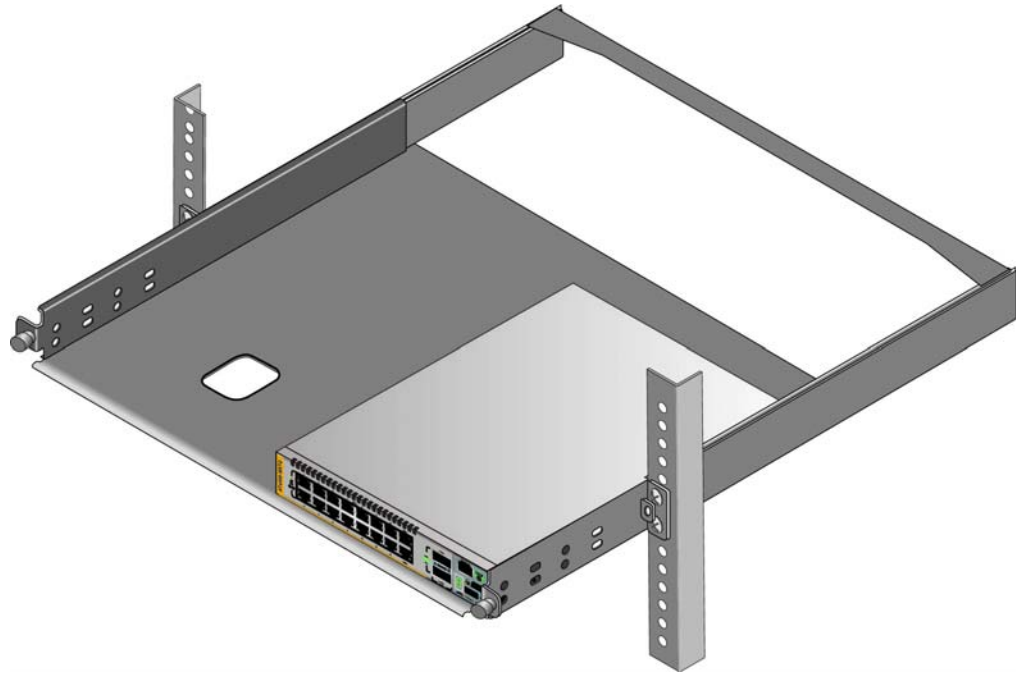

Figure 28. Placing a Switch in the AT-RKMT-J15 Bracket
7. Place the switch in the left or right side of the bracket, with its front panel facing the front of the bracket. If you are installing only one switch, you may install it on either the left or right side. Refer to Figure 28 on page 59.